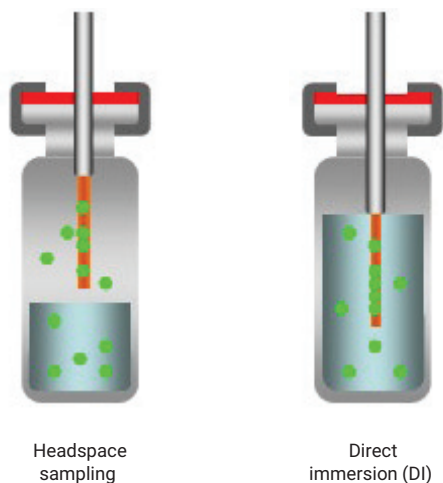
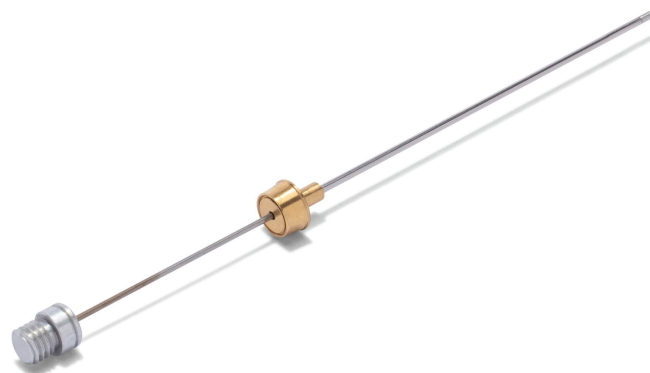

Figure 7. Headspace sampling and direct immersion fiber positioning.
Figure 8. Agilent SPME Arrow, acrylate (polyacrylate), 1.10 mm, 100 μm , gray, 3/pk (p/n 5191-5858).
For complex or dirty samples (food and soil samples), headspace SPME is frequently chosen. However, the more hydrophilic and low volatility compounds—with relatively slower kinetics in solution—suffer higher resistance to transportation to the headspace. Thus, headspace sampling involving semivolatile and polar compounds is not always efficient. The extraction efficiency for polar and semivolatile compounds improves drastically when DI-SPME is performed. In DI-SPME, the diffusion coefficients through the matrix, which define the mass transfer properties of the extraction mode, are similar for all small molecules present in the system (Figure 7). The polyacrylate (PA) phase is most commonly used when analyzing nonvolatile polar analytes from clean matrices⁴ (Figure 8).